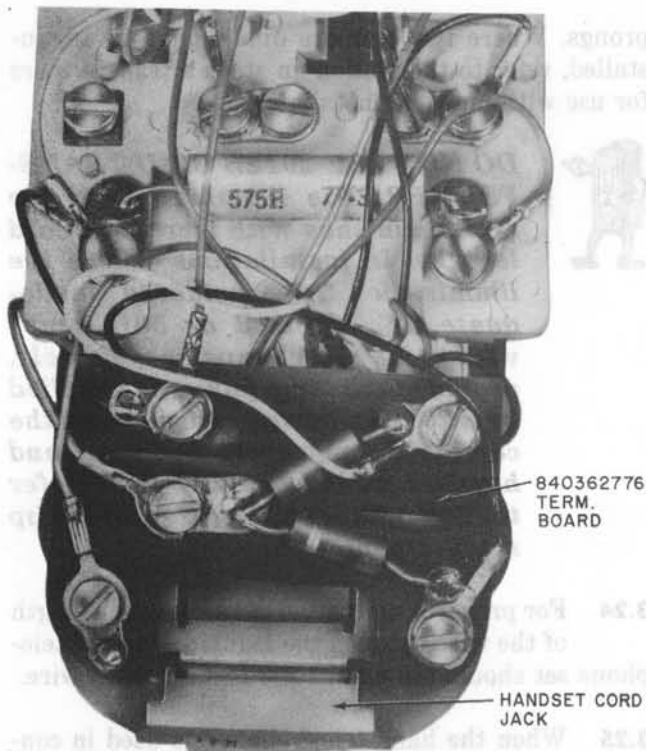

Fig. 17—840362776 Terminal Board Installed in AD-Type Telephone Base
- (1) Remove hand telephone set cover (shell), paragraph 3.05.
- (2) Replace 227D adapter (furnished with handset) with the 227C adapter.
- (3) Connect leads from adapter as shown in Table D.
- (4) Reassemble handset (paragraph 3.06).
- (5) Remove base housing (paragraph 3.02).
- (6) Position terminal board over handset cord jack (Fig. 17).
- (7) Make connections as shown in Table D.
- (8) Replace base housing (paragraph 3.03 or 3.04).